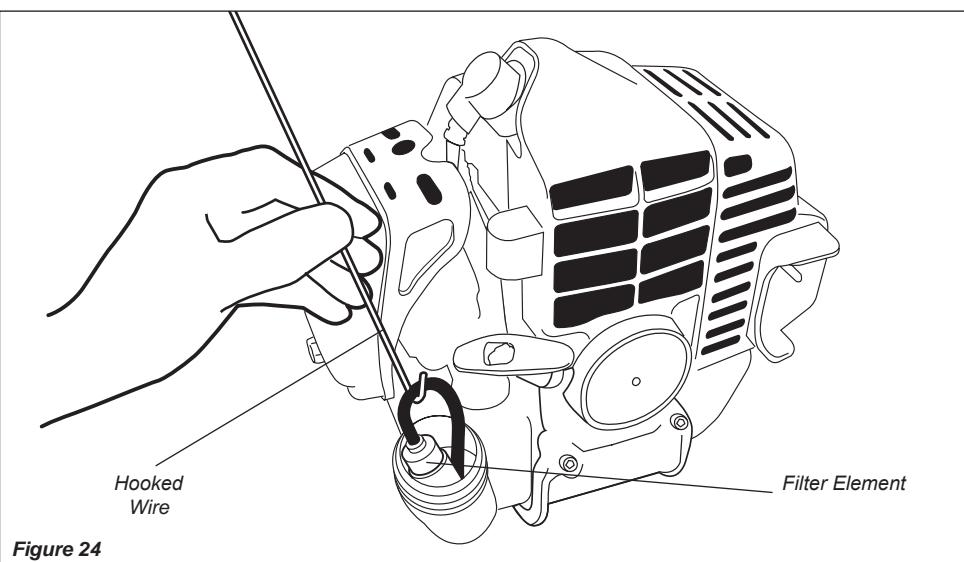

Figure 24
- Use a hooked wire to extract the fuel filter from inside the fuel tank. See Figure 24.